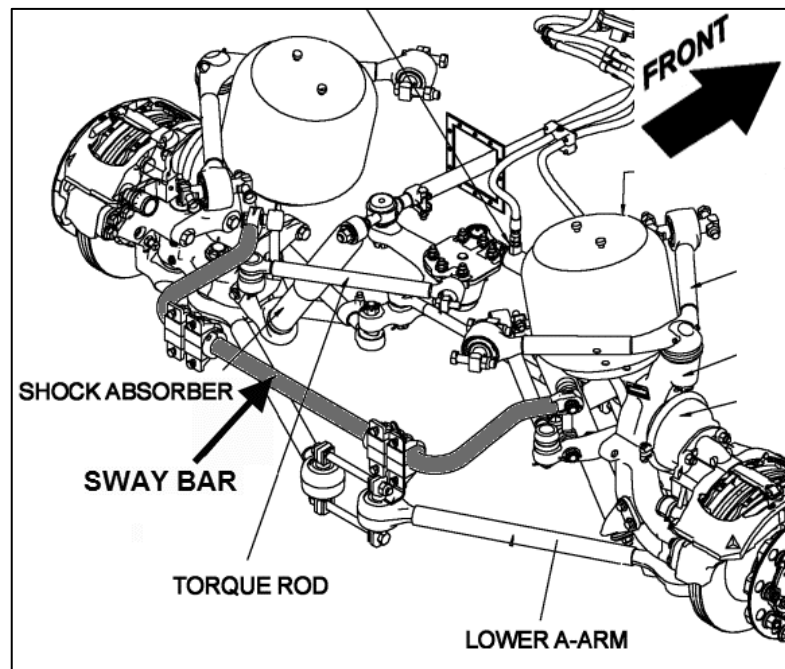

Figure 1
1. On the front axle, locate the front suspension sway bar. (Fig. 1)